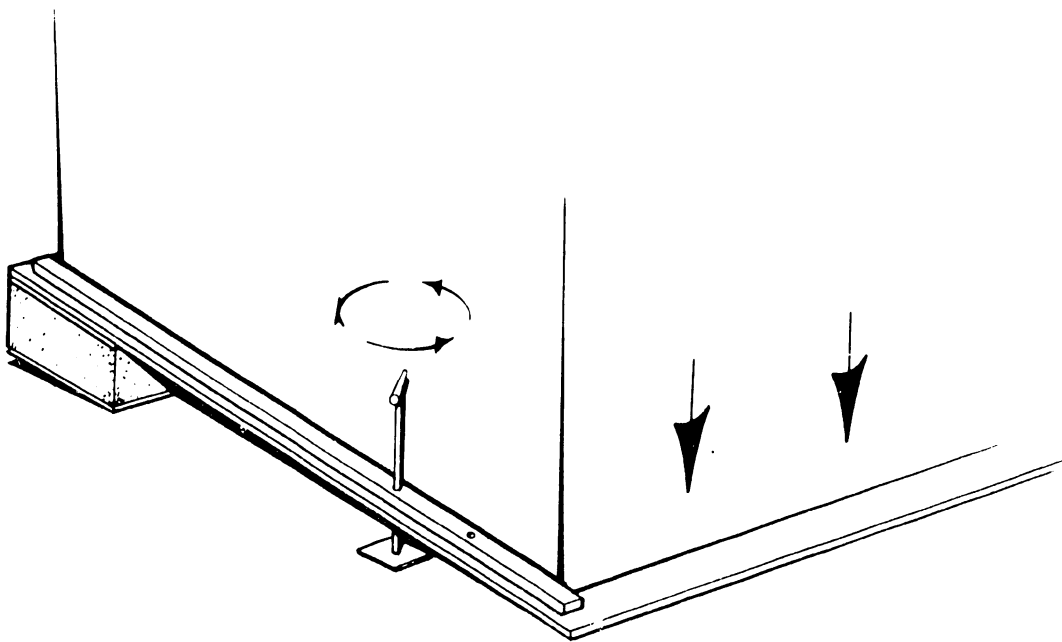

FIGURE 3-3 LOWERING THE PALLET FRONT END
9. Lower the front end of the pallet as follows: (See Figure 3-3.)